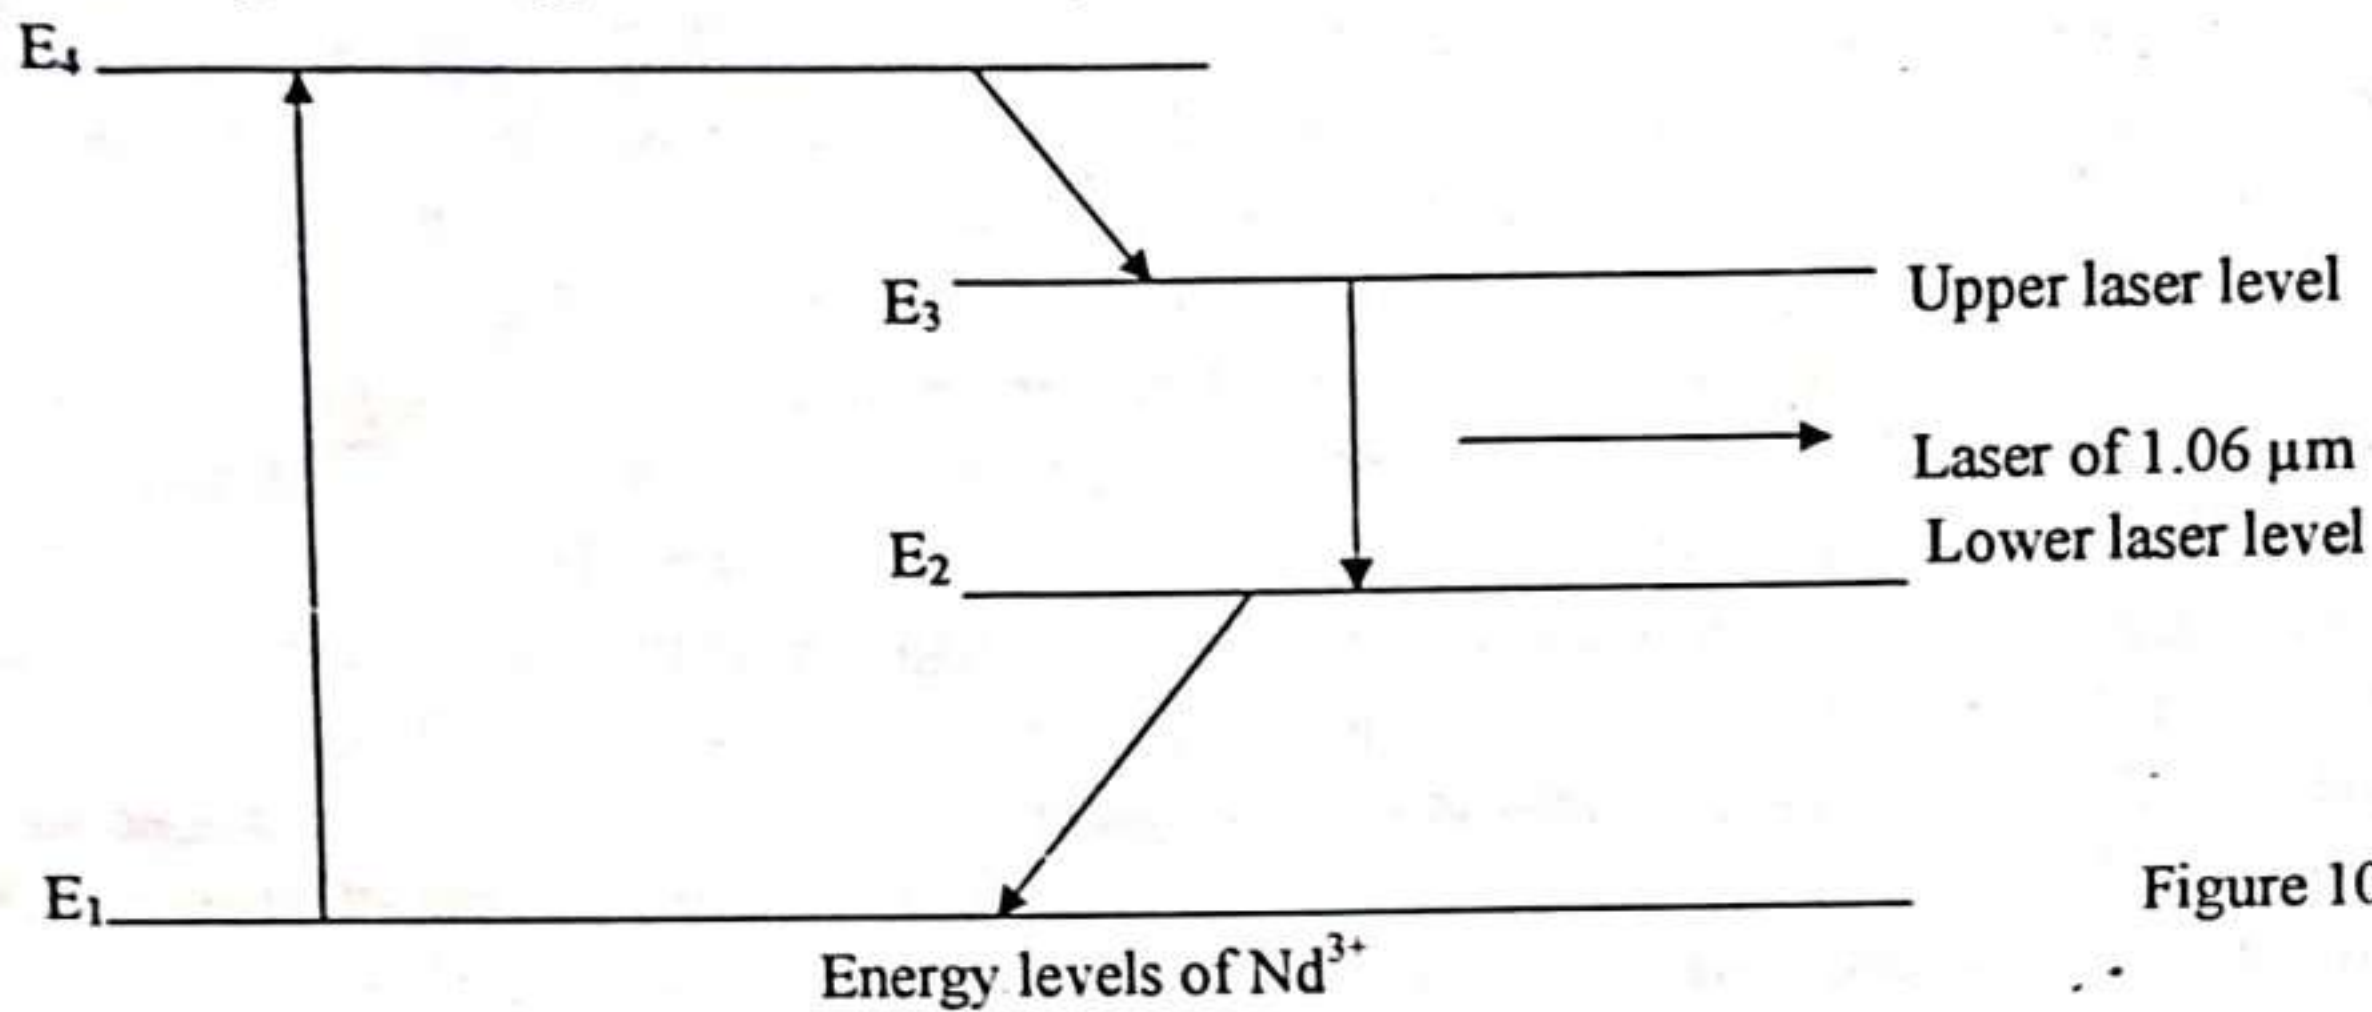

Figure 10
**Working:** The energy levels of the neodymium ion in YAG crystal are shown in Fig. 10.